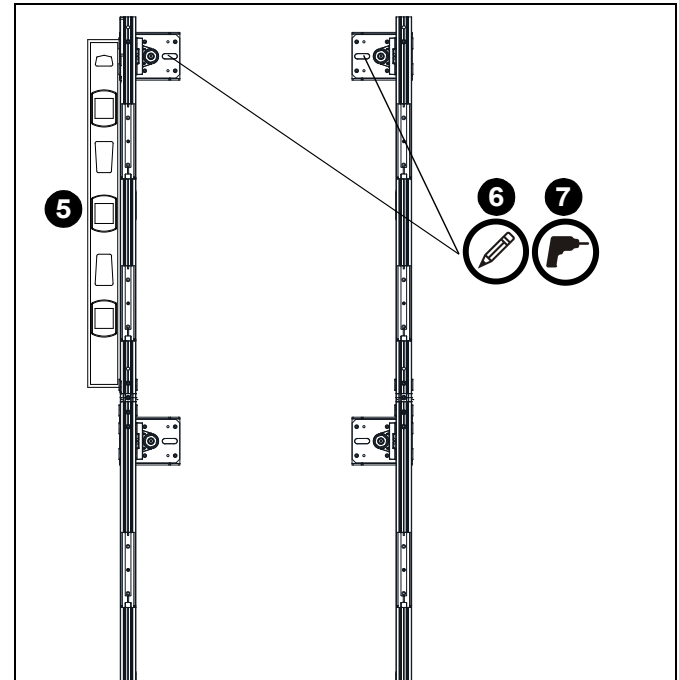

Figure 22
1. Remove the top button capture bracket by removing two screws on top of starter uprights (A and B). Set bracket and screws aside for re-use. (See Figure 22)
5. Level the extender uprights to ensure they are vertically level with the starter uprights. (See Figure 22)
6. Mark mounting hole at each location. (See Figure 22)
7. Drill a 7/32" hole at the location of each mounting hole. (See Figure 22)